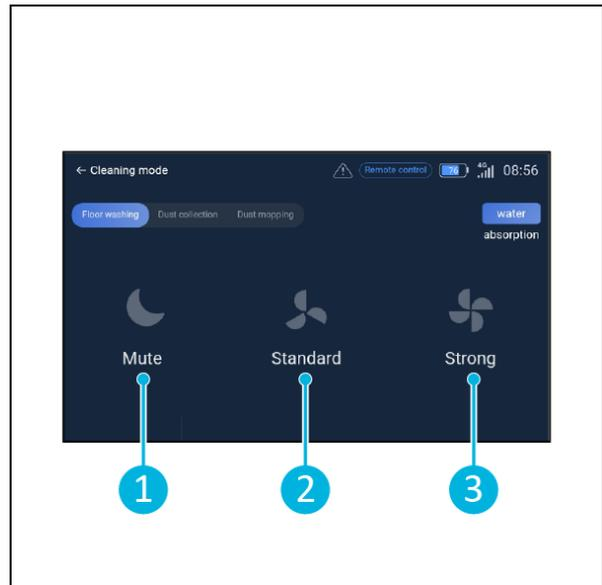

Figure 20
[Mute] (Figure 20, pos. 1),
[Standard] (Figure 20, pos. 2) ou
[Forte] (Figure 20, pos. 3).